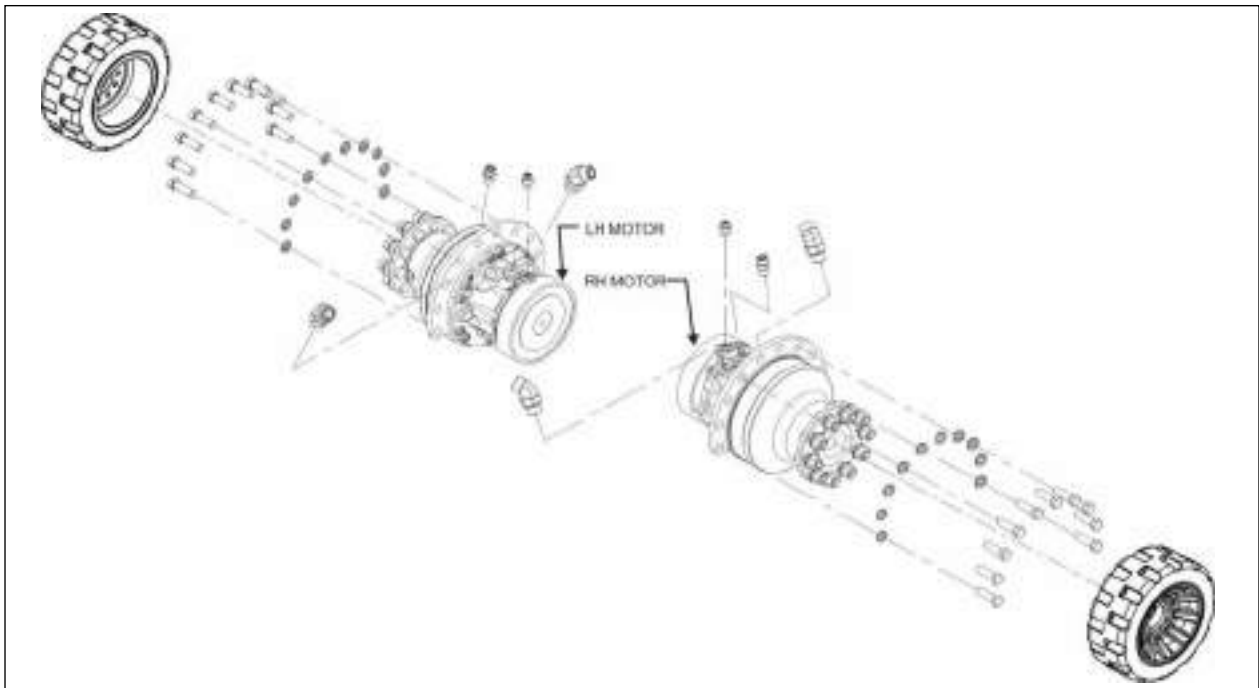

Figure 3-28: Hydrostatic Drive Motor Assembly
6. Remove the drive wheel assembly on the side being serviced. **See Figure 3-28.**
See Figure 3-28.
5. Remove the ten 9/16-18 x 2 hex head cap screws and hardware holding the drive motor to the truck frame. **See Figure 3-28.**